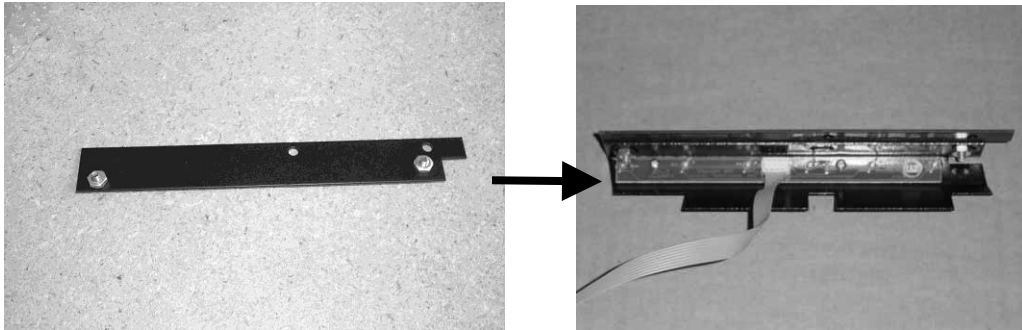

Figure 1.
2. The Sensor Mounting Plate (part # 05-0098-01) will now have to be mounted onto the Emitter board bracket, which is the smaller of the two boards. The hardware that is needed is mounted on this bracket for convenience. See figure 1 for orientation.